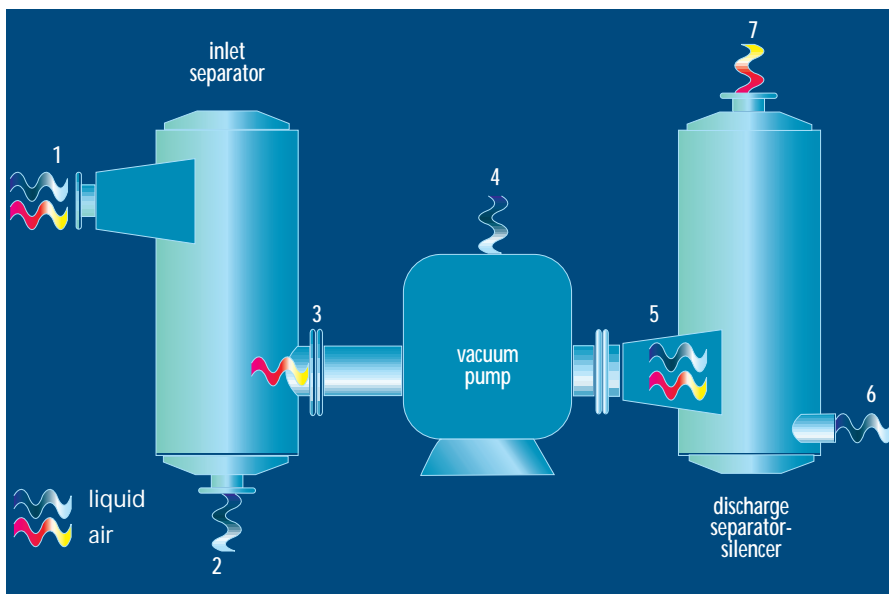

FIGURE 1.
**S**eparator-silencers are used to remove liquid from gas flow vacuum systems using either liquid-sealed rotary positive blowers or liquid ring vacuum pumps (Fig. 1).